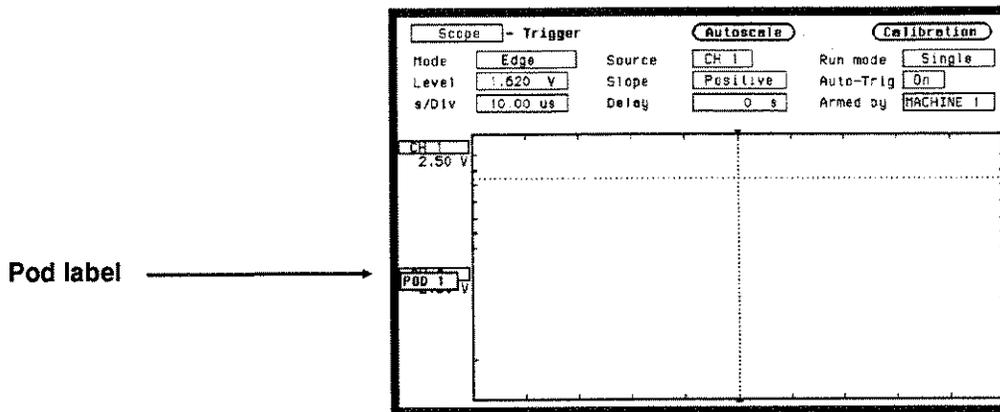

Figure 26-7. Pod Label Field
4. A field labeled POD 1 will appear as shown in figure 26-7.